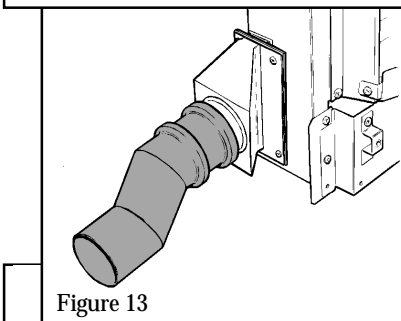

Figure 13
6.9 For horizontal duct installations: Fit the "Z" shaped duct coupling to the duct connector pushing firmly to ensure a good seal. Rotate the coupling so that its open end is as low as possible (see figure 13).